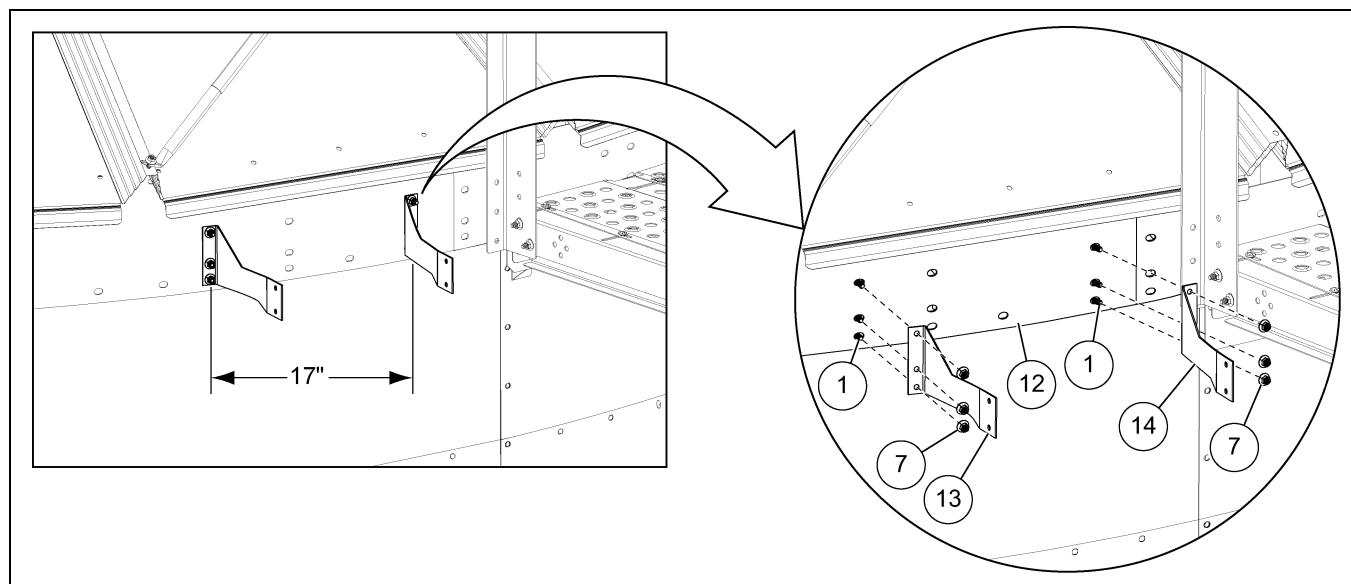

Figure 7A Installing the Ladder Starting Brackets
1. Install the ladder starting brackets (13 and 14) to the roof band (12) using 3/8" x 1" flange bolts (1) and 3/8" flange nuts (7). (See Figure 7A.)